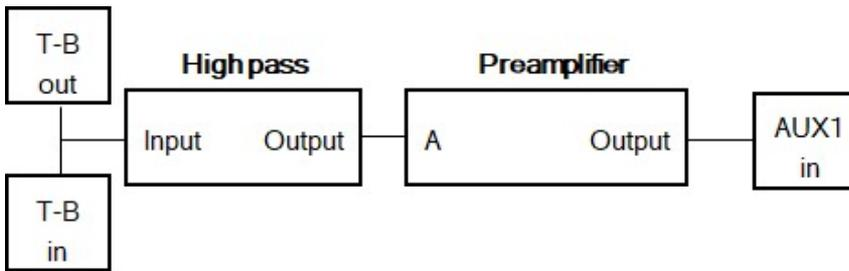

Figure 3: Wiring diagram (top) and installed components (bottom)
1. Connect the T-Piece with T-B-in and with the high pass filter (Figure 3).